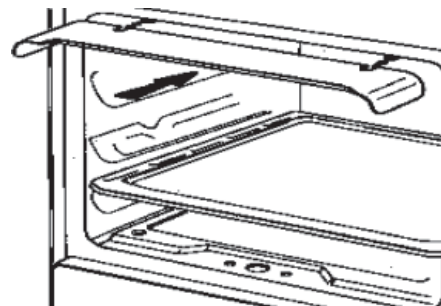

Figure 17
All cookers are equipped with an automatic electric ignition system. The correct distances between an electrode and a burner are shown in figures 17 and 18.
1. Fit the knob guard to protect it from hot air as shown on figure 17.